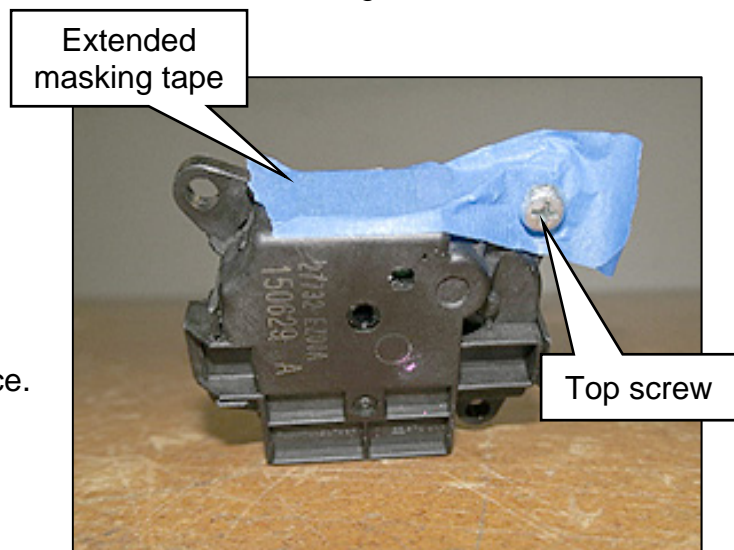

Figure 10
HINT: To ease the removal of the masking tape, extend it along the top of the air mix door motor RH so that it can be reached after the screw is installed (see Figure 10).
- Place one screw in the top hole covered by the masking tape, as shown in Figure 10, to hold it in place.